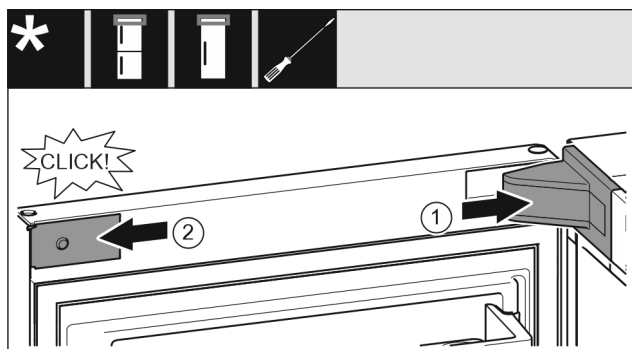

Fig. 21
- ▶ Put the swap bearing block cover Fig. 21 (1) on and engage, push apart carefully if required.
- ▶ Place the trim Fig. 21 (2) on the side and engage.